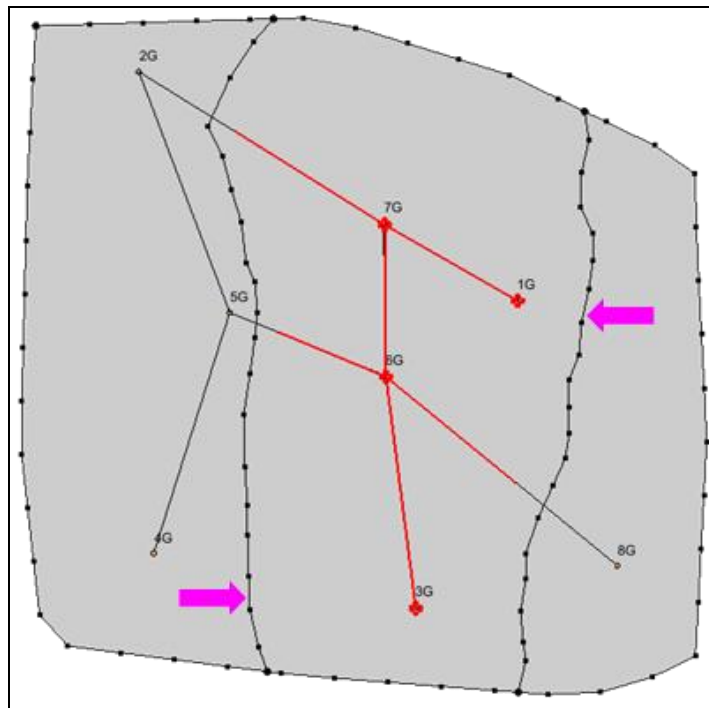

Figure 5 Arcs created in the Horizon 4 coverage
4. Using the **Create Arc**  tool, create two arcs similar to those identified by the arrows shown in Figure 5. Notice that the arcs surround the red highlighting on the cross sections.